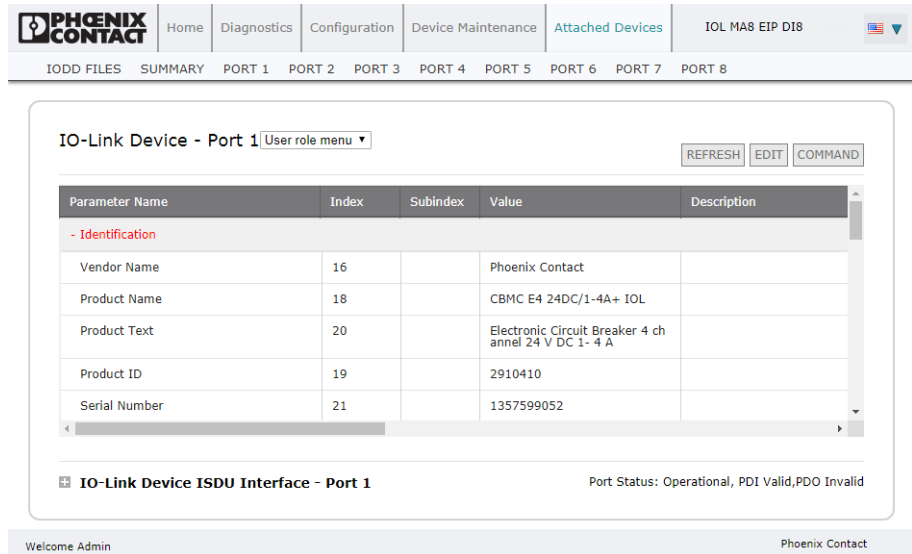

Figure 5-41 “IO-Link Device - Port *n*”
1. Click the “COMMAND” button (see Figure 5-41) and locate the “Restore Factory” button.